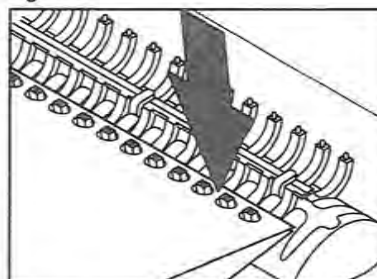

Figure 8
2. Align punched holes in your document with corresponding rings on the binding spine. (see Figure 8)